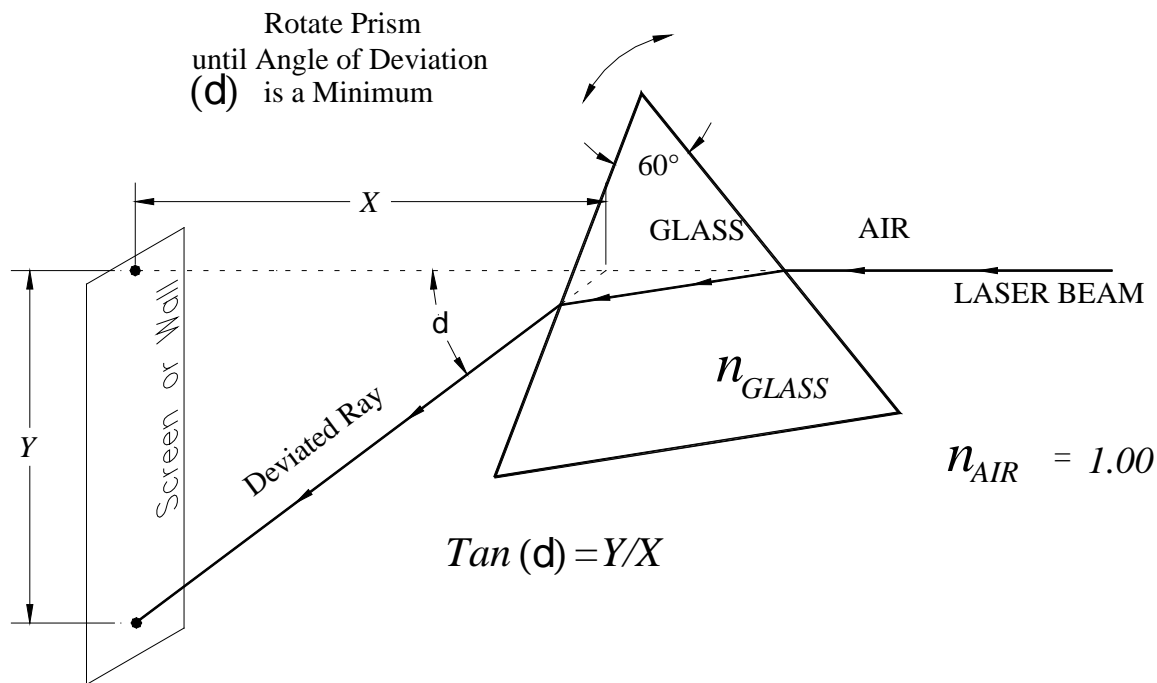

Figure 5 Diagram showing how to measure the angle of minimum deviation.
The angle of deviation d as shown in Figure 5 is defined as the angle between the ray incident on a prism and the Deviated Ray exiting the prism. If the light starts out at normal incidence to the face of the prism the Deviated Ray will be deflected by a large angle. If the prism as shown in Figure 5 is rotated in the counter-clockwise direction the angle of deviation will begin to decrease. As the prism is further rotated the angle d will reach a minimum value d_m and then will begin to increase.
13) Set up the laser to project onto the wall or onto a screen and mark this position. Now place the prism so the beam is deviated by the laser as shown in Figure 5. Rotate the prism back and forth while watching the position of the deviated beam. Rotate the prism until the angle of deviation is a minimum. Measure the distance from the prism to the screen (X) and the distance of deviation (Y). Use these values to determine the angle of deviation, \mathbf{d}_m . Then, using 60° for the angle of the prism \mathbf{q} and using the \mathbf{d} that you measured, calculate the index of refraction, n , from Equation 4.